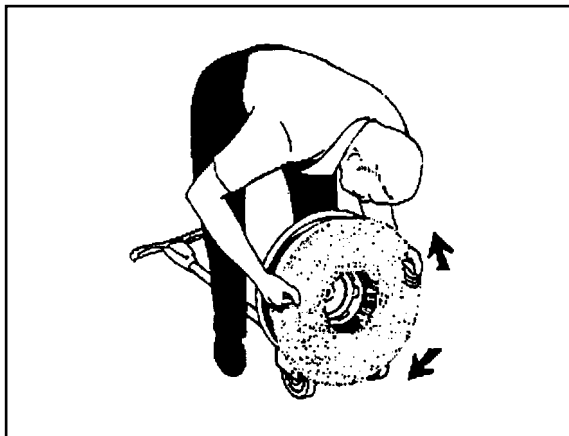

Figure 4
4. Put one foot on each side of the machine. See figure 4.